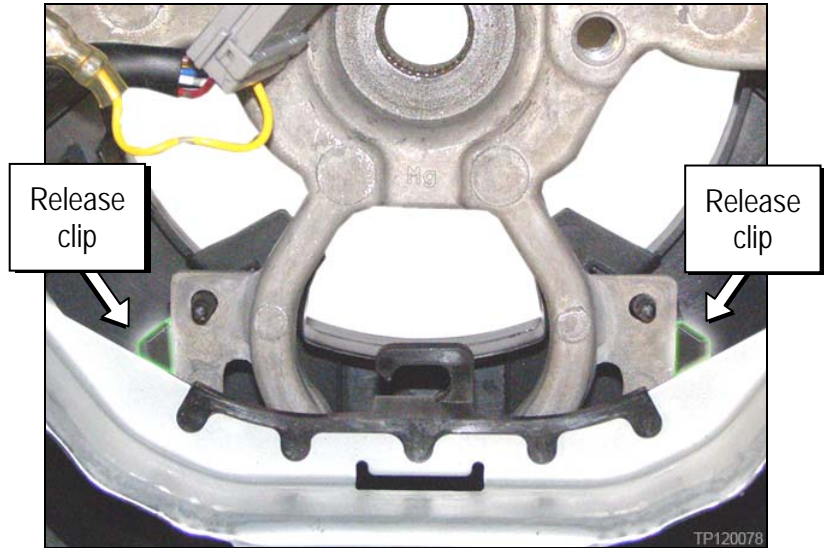

Figure 1
a. Push and release the two (2) clips shown in Figure 1.